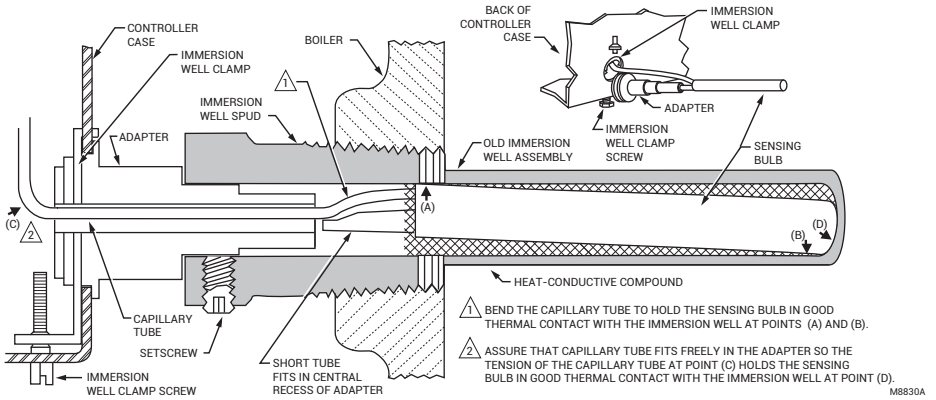

Fig. 2. Proper position of sensing bulb in immersion well, and use of well adapter in existing well.
If the well is not a snug fit on the bulb, use the heat-conductive compound (furnished with trade models) as follows: Fold the plastic bag of compound lengthwise and twist it gently. Then snip off end of bag and work the open end of bag all the way into the well. Slowly pull the bag out while squeezing it firmly to distribute compound evenly in the well. Bend the tubing, if necessary, to hold the bulb against the bottom of the well and to hold outer end of the bulb in firm contact with the side of the well. See Fig. 2. Wipe excess compound from the outer end of the well.
2. Pull out the capillary until the bulb bottoms in the well. Place adapter (if used) around the capillary tube so it fits into the slot. See Fig. 2. Center the loop of excess capillary tubing in front of the immersion well so it cannot touch any electrical parts.
4. Insert sensing bulb into well as shown in Fig. 2. (Distribute the heat-conductive compound in the tube prior to bulb insertion.)